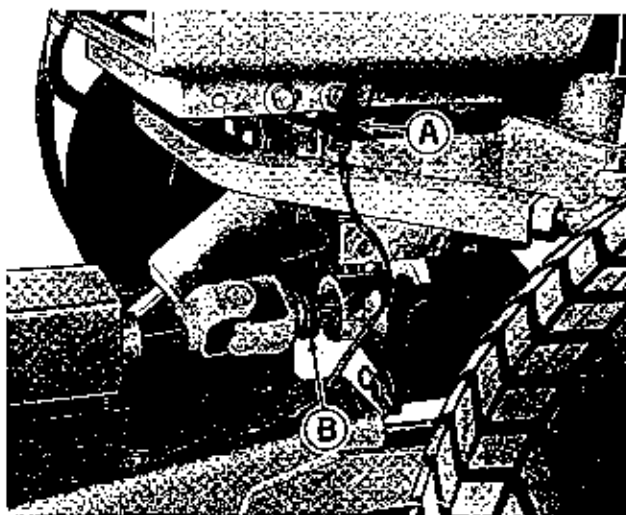
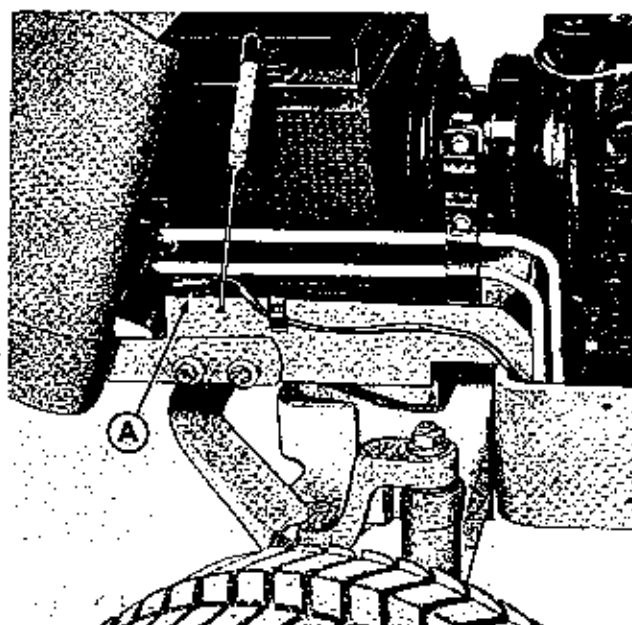
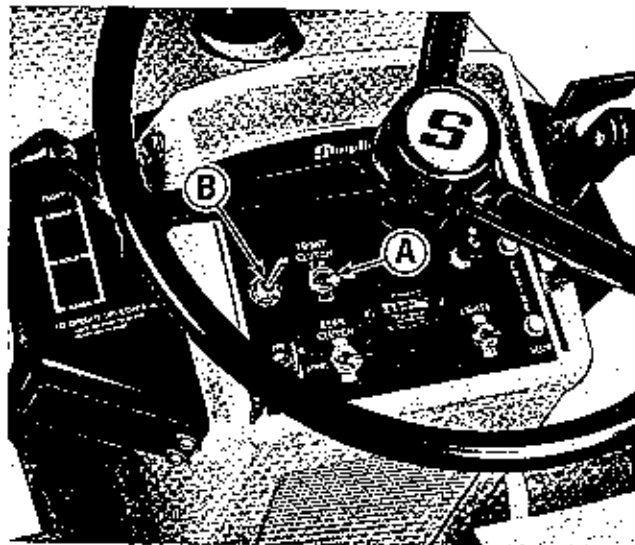

Figure 8. Drive shaft locking ring shown in locked (operating) position.
Figure 9. Left side of tractor showing spout control cable in storage position.
Figure 12. Tractor dash viewed from operator's position.
12. See figure 8. After sliding the drive shaft completely onto the spline, push locking collar (B) toward the back of the tractor to lock the drive shaft in place. Check to be
13. See figure 8. Route the spout control electrical wiring as shown, connecting it at (A). If the spout control wiring and switch (figure 12, item B) have not been installed on your tractor, request the assembly instructions provided with the snow thrower from your Simplicity dealer.
3. See figure 8. Disconnect the electric wiring at (A) and store it on the tractor as shown at (A) in figure 9.
See figure 12. The tractor engine should be operating at $1/2$ to $3/4$ throttle when the snow thrower is engaged. To engage the snow thrower drive, push forward on the **FRONT CLUTCH** switch (A). **CAUTION: IF THE SNOW THROWER DRIVE SHOULD BEGIN TO SLIP WHEN THE POWER TAKE OFF IS ENGAGED, DISENGAGE THE FRONT CLUTCH IMMEDIATELY TO PREVENT DAMAGE TO THE SNOW THROWER DRIVE BELT OR THE POWER TAKE OFF CLUTCH.** Refer to the Trouble Shooting Guide on page 7 for possible causes and corrections.
See figure 12. The spout control switch (B) is used to rotate the snow thrower spout to the left and right to control the throwing direction. Simply push the switch to the left to rotate the spout to the left or to the right to rotate the spout to the right. The spout will automatically stop turning as soon as the switch is released. Whenever possible begin snow removal on the upwind side of the sidewalk or driveway so it is not necessary to blow snow over an area already cleared.